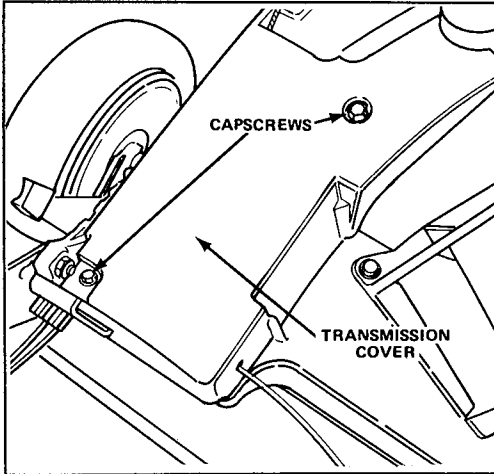

Figure 29
2. Remove two capscrews and lift off transmission cover (Fig. 29).